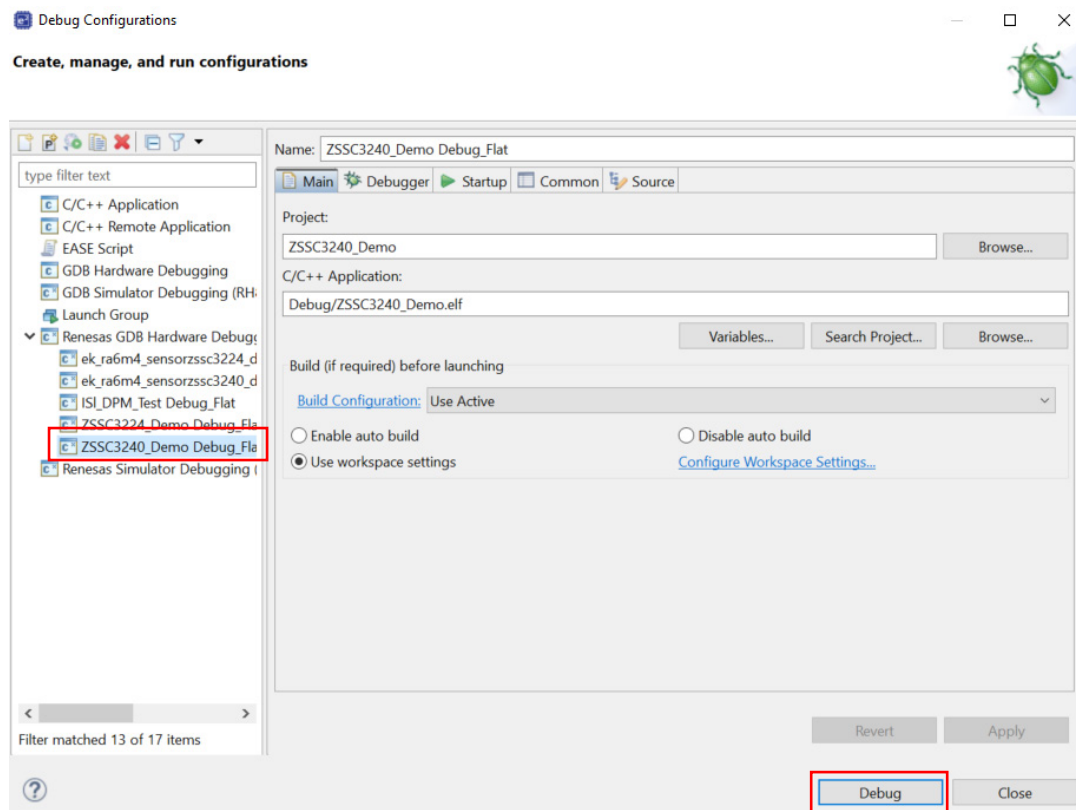

Figure 21. Start Debug Mode
4. Select *Renesas GDB Hardware Debugging > ZSSC3240_Demo Debug_Flat* (see Figure 21).